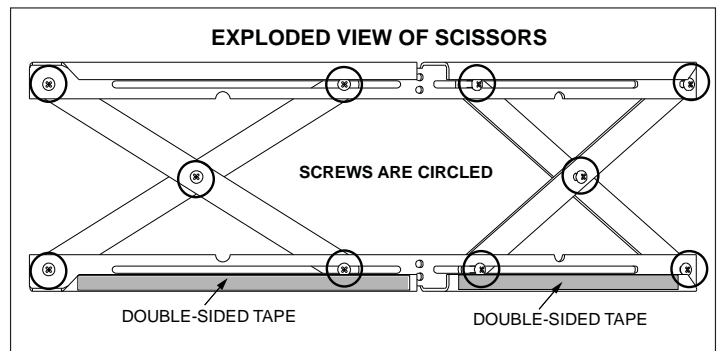

Figure 22.1
**Included in Kit:** (1) Trim Top, (1) Trim Front, (2) Trim Sides, Double-Sided Tape (already installed)
1. The 10 screws on each set of scissors will already be loose when shipped. **Figure 22.1.**